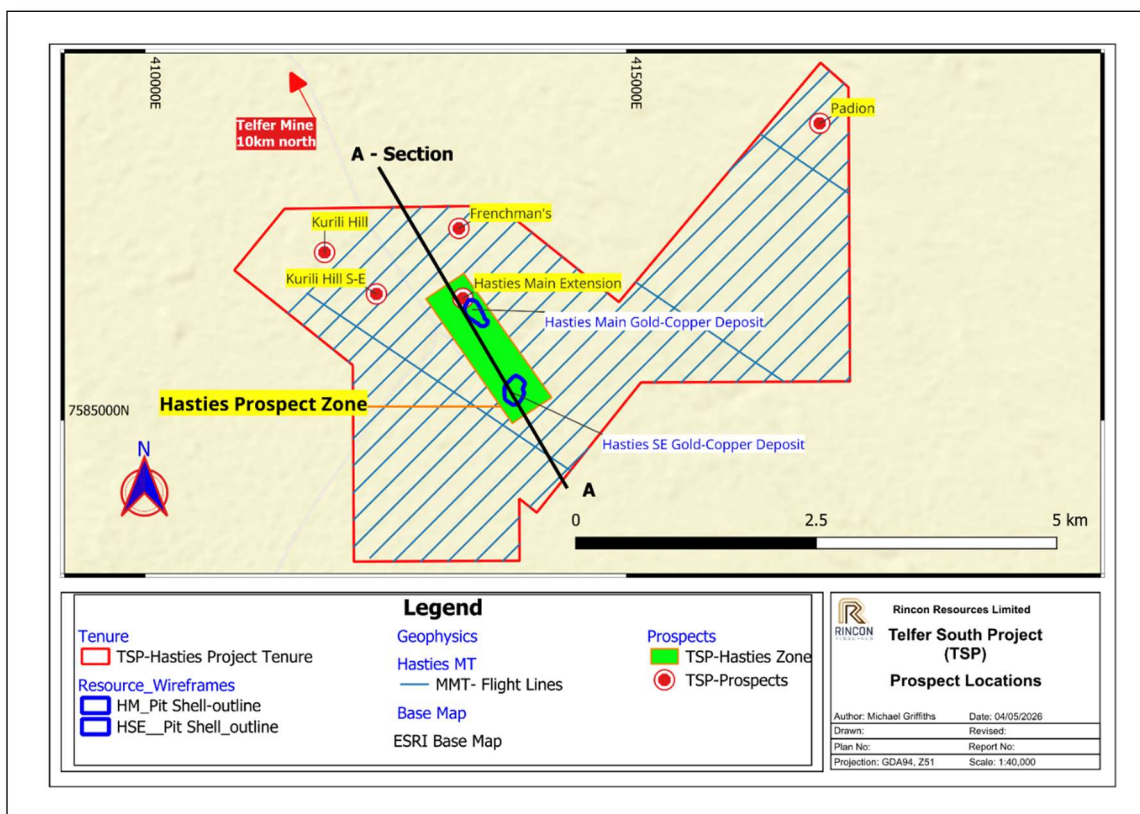

Figure 2 –Telfer South Project – Mobile MT Flight Lines, Prospects and X-section Location (A-A).
- A second resistive unit/zone has also been identified at the recently defined Padion prospect, located ~4km north-west of the Hasties zone (Figure 2).